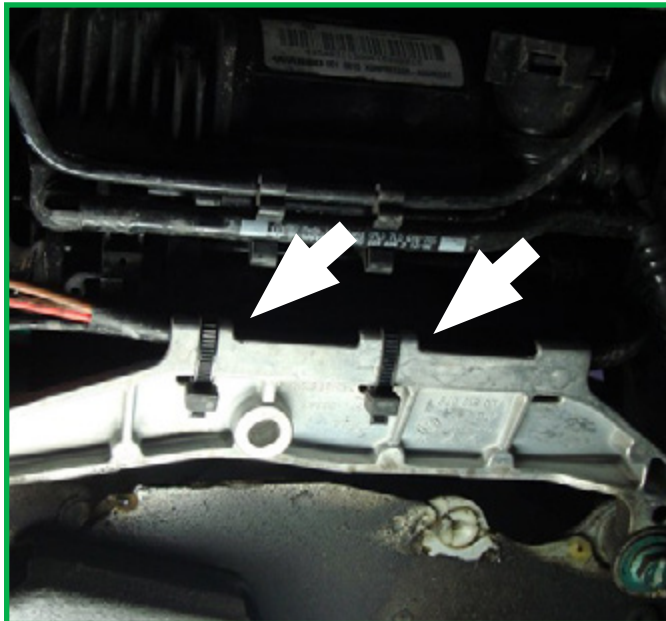

FIGURE 2
4. Remove the two (2) cable ties holding the connector wires. (Figure 2)